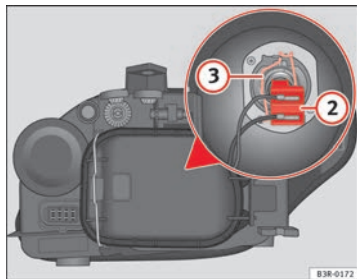

Fig. 211 Dipped head-lights
- Pull the connector ⇒ fig. 211 ② from the bulb.
- Unclip the retainer spring ⇒ fig. 211 ③ pressing inwards to the right.